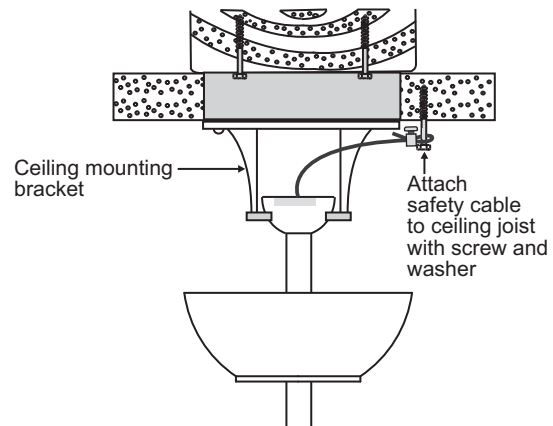

Fig. 11
Step 1. Attach the wood screw and washers to the ceiling joist next to the mounting bracket but do not tighten. (Fig. 11)